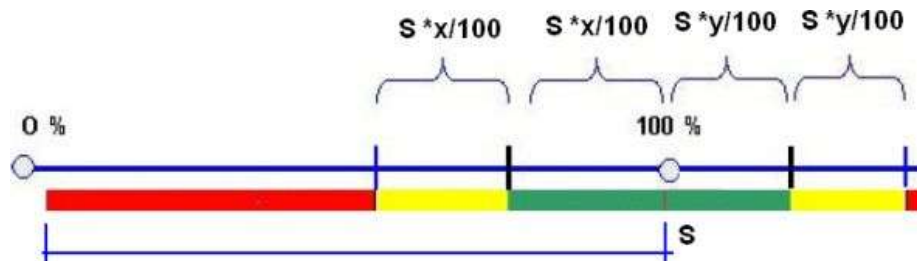

Figure 56: Example of a Defined Section – Step Value
This chapter  discusses the principal procedure. In addition, this chapter includes a schematic diagram for the step value (PI  refer to the Figure 56).
- Green means that occupancy is at its optimum level. *Please refer to the Figure 56.*